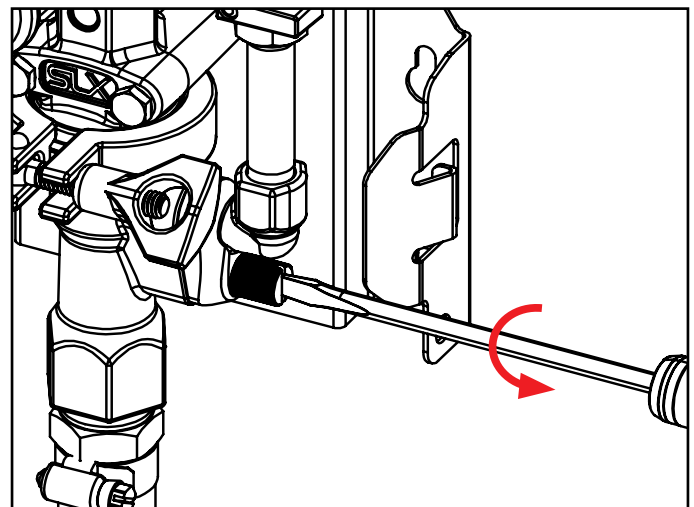

Fig. 8.2: Loosening thumb screw on elbow (air inlet)
3. Loosen the thumb screw on the elbow by hand or using a flathead screwdriver. [Fig 8.2]